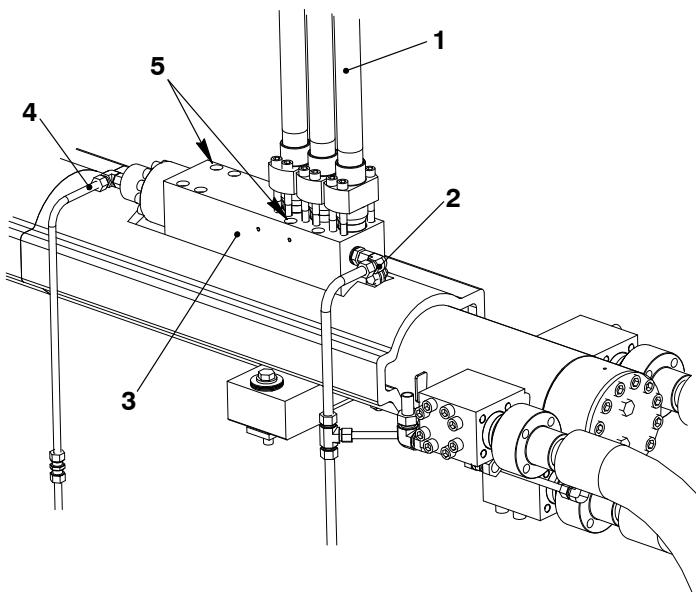

Fig. 7
- 1) Install the leakage pipes (2 and 4, Fig. 7) to the FLV (3).
- 2) Install the HP fuel pipes (1), refer to 8733-1, paragraph 4.